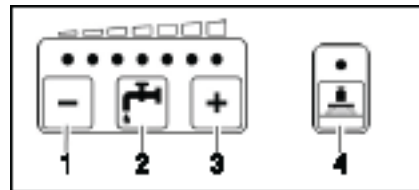

Fig 22
- Reduce solution quantity (Fig. 22/1)
- Increase solution quantity (Fig. 22/3)
- Solution on/off (Fig. 22/2)
- Increase brush pressure (Fig. 22/4)